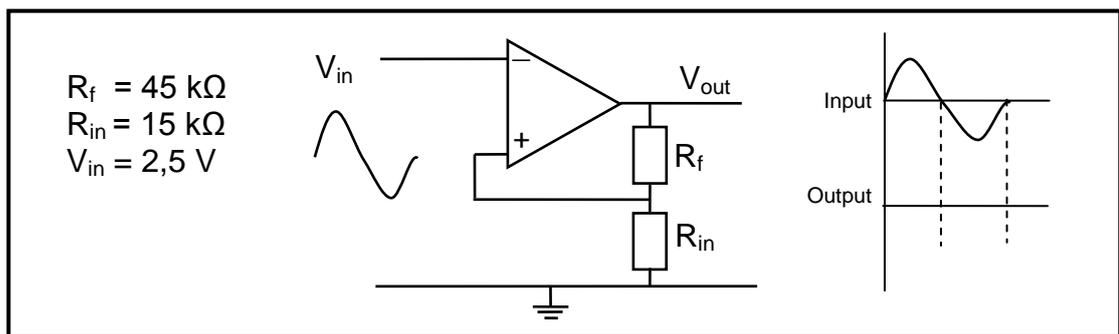

FIGURE 7.3: OP-AMP CIRCUIT
- 7.7 Refer to FIGURE 7.3 and answer the questions that follow.